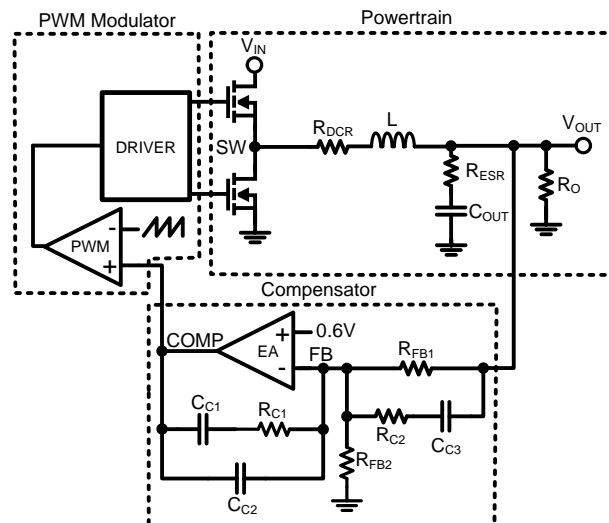
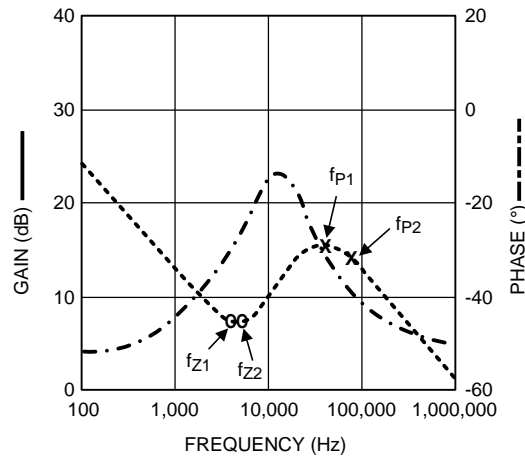

Figure 35. Control Loop Schematic Diagram
**Figure 36. Powertrain Bode Plot**
There are three main blocks of a voltage mode buck switcher that the power supply designer must consider when designing the control system: the powertrain, PWM modulator, and the compensator. A diagram representing the control loop is shown in Figure 35.
The powertrain consists of the filter inductor (L) with DCR ( $R_{DCR}$ ), output capacitor ( $C_{OUT}$ ) with ESR (effective series resistance  $R_{ESR}$ ), and effective load resistance ( $R_O$ ). The error amplifier (EA) regulates the feedback pin (FB) to 0.6V. The passive compensation components around the error amplifier help maintain system stability. Type III compensation is shown in Figure 35. The PWM modulator establishes the duty cycle command by comparing the error amplifier output (COMP) with an internally generated ramp set at the switching frequency.
The bode plot of the above transfer function can be seen in Figure 36.
The complex poles ( $f_{LC}$ ) created by the filter inductor and output capacitor cause a 180° phase shift as seen in Figure 36. The phase is boosted back up to -90° by virtue of the output capacitor ESR zero. The phase shift caused by the complex poles must be compensated to stabilize the loop response. The compensation network shown around the error amplifier in Figure 35 creates two poles, two zeros and a pole at the origin. Placing these poles and zeros at the correct frequencies will optimize the loop response. The compensator transfer function is: